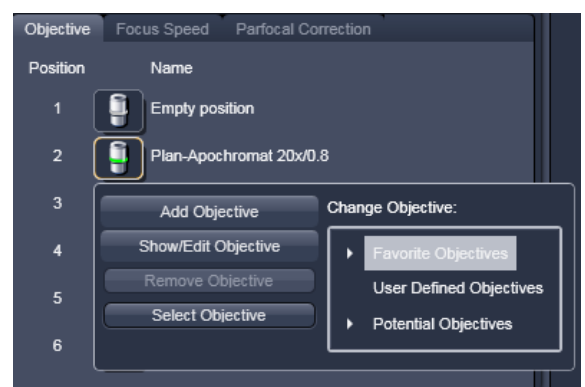

Fig. 150 Change objective window
- An expansion (**Change Objective**) window appears. All available objectives are listed in the **Potential Objectives**, **User defined Objectives** or **Favorite Objectives** directories of the expanded window (see Fig. 150).